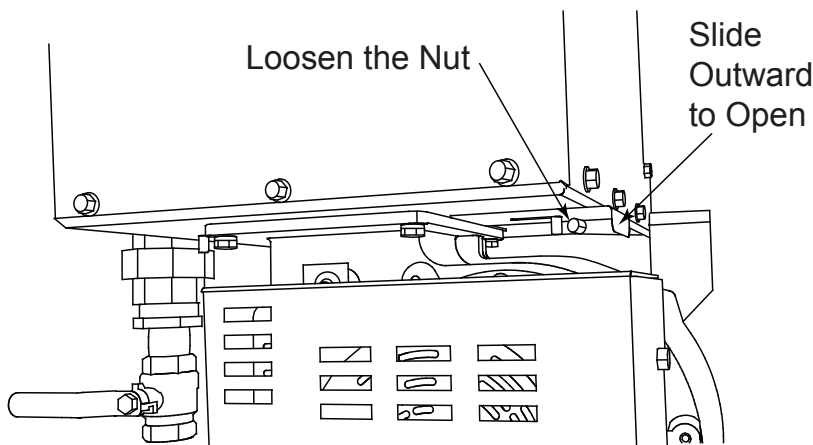

Figure 2. Air Damper
- Confirm that the air damper, see Figure 2, is completely open and has not been inadvertently moved during packing, shipping, or installation.